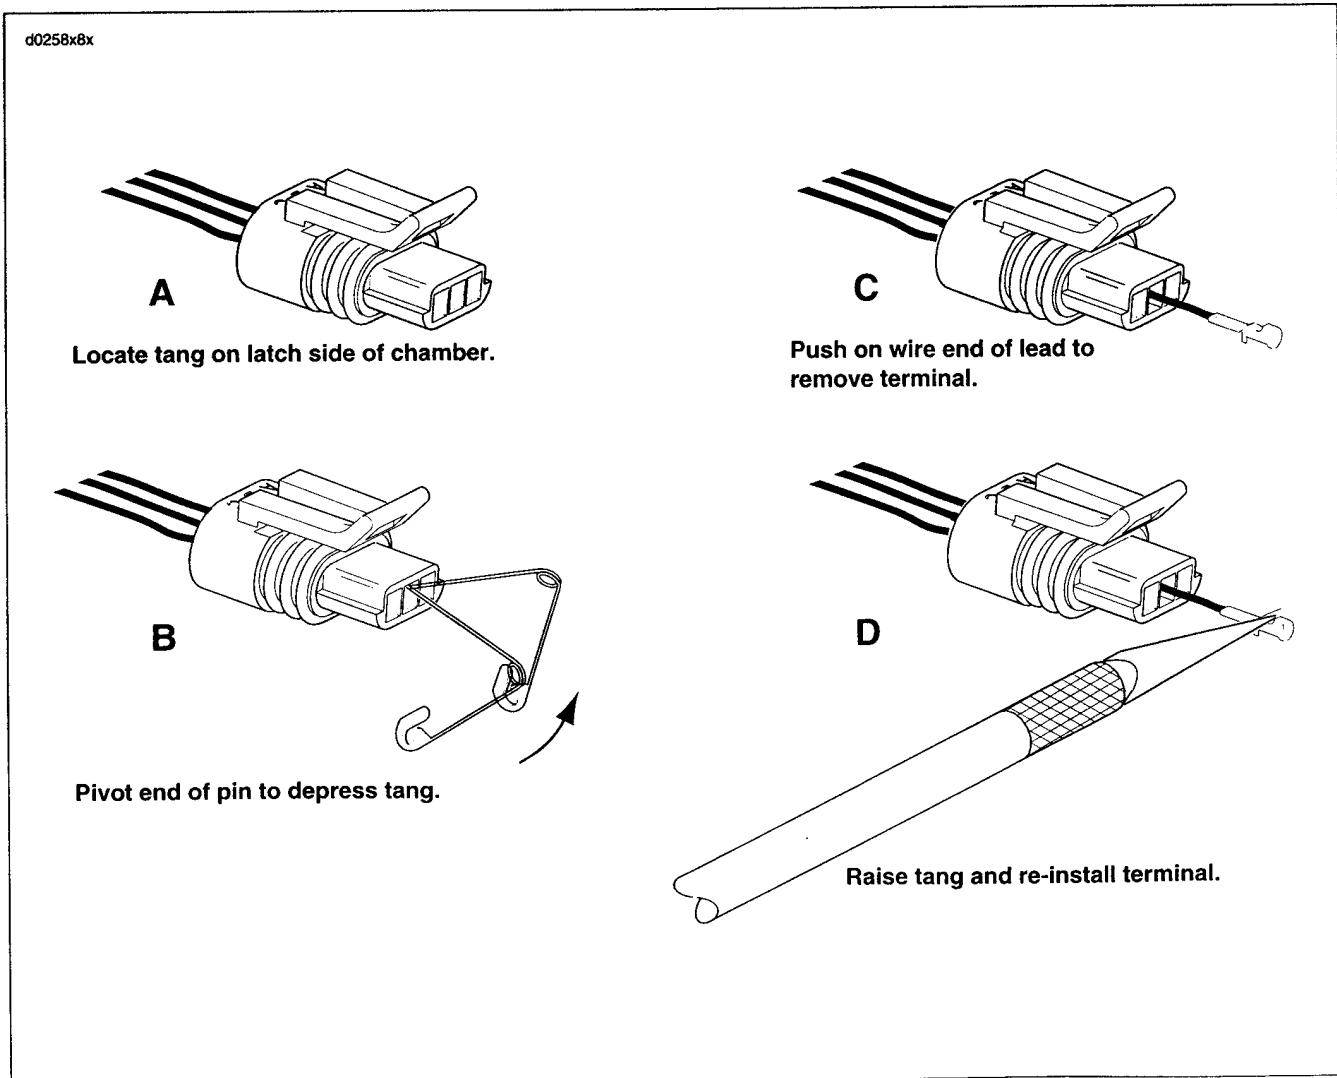

Figure B-20. Packard Connectors
Two types of Packard pull-to-seat electrical connectors are used. One type has an external latch to lock the pin and socket halves together, while the other makes use of a wire-form. See Figure B-20. The manner in which the terminals are picked differs between these two types of connectors, as further described below.
3. To free a pull-to-seat terminal from the connector housing, first look into the mating end of the connector to find the locking tang. See A in Figure B-20. The tangs are always positioned in the middle of the chamber and are on the same side as the external latch. On those connectors with locking ears, the tang is on the side opposite the ear.
4. At a slight angle, gently insert the point of a one inch safety pin down the middle of the chamber (about 1/8 inch) and pivot the end of the pin toward the terminal body. When a click is heard, remove the pin and repeat the procedure. See B in Figure B-20. The click is the sound of the tang returning to the locked position as it slips from the point of the pin. Pick at the tang in this manner until the clicking stops and the pin seems to slide in at a slightly greater depth than it had previously. This is an indication that the tang has been depressed.
- 5. Remove the pin and push on the wire end of the lead to extract the terminal from the mating end of the connector. See C in Figure B-20. If necessary, pull back the conduit and remove the wire seal at the back of the connector to introduce some slack in the wires.
1. To install a terminal back into the chamber of the connector housing, use a thin flat blade, like that on an X-Acto knife, and carefully bend the tang outward away from the terminal body. See D in Figure B-20.